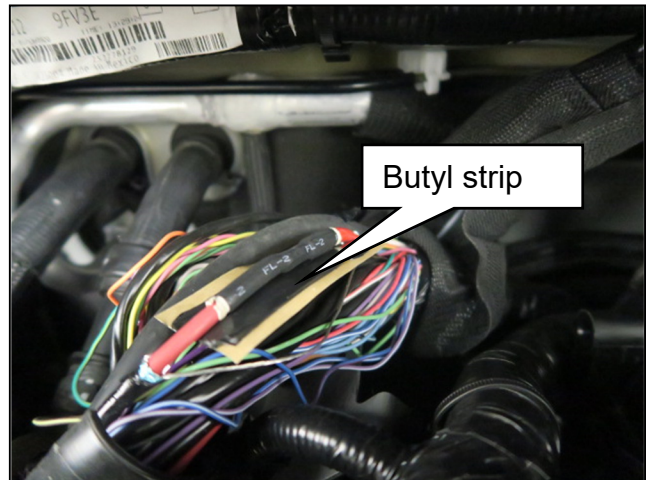

Figure 23
- a. Center the first butyl strip onto the splice as shown in Figure 23.